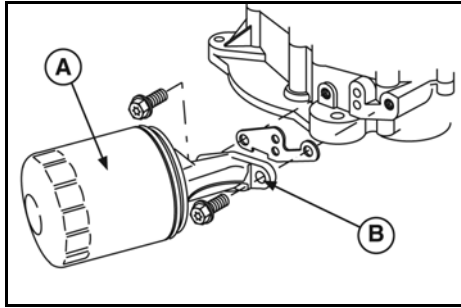

Figure 24
1. Drain oil, unscrew filter (A, Figure 24) and discard.
2. Remove screws, filter adapter (B), and gasket. Discard gasket.